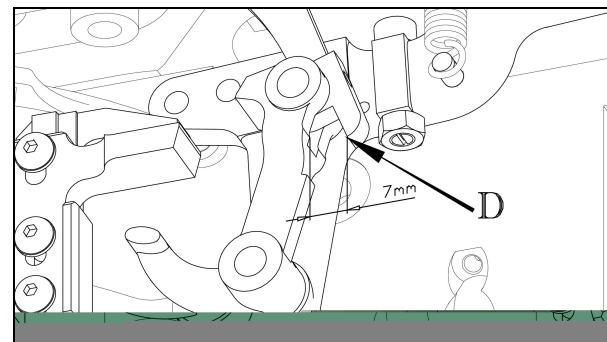

Fig 3
Manually pull down the clamps until the clamp feet just touch the clamp mats. The distance at point (D) should be 7mm, as shown in Fig 3.